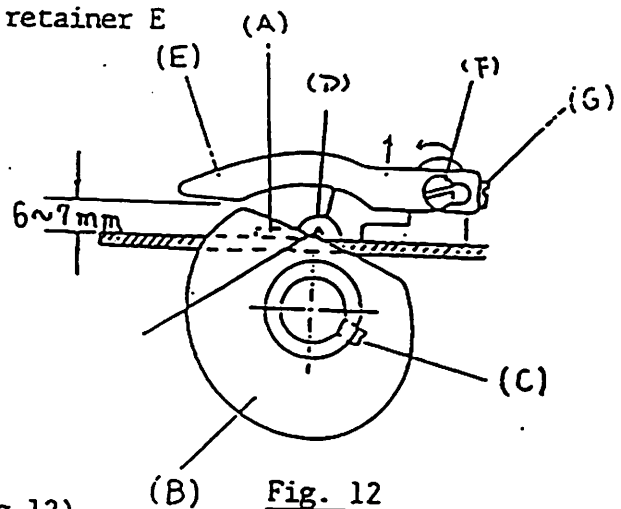
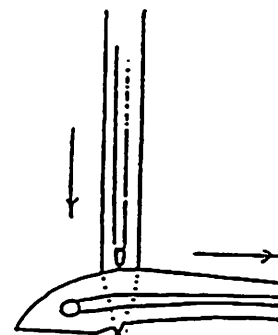

Fig. 12
Fig. 13
14) Adjustment of looper thread take-up (Fig.12,13)
- c) Adjustment of take-up cam (Fig. 13)(Fig.12)